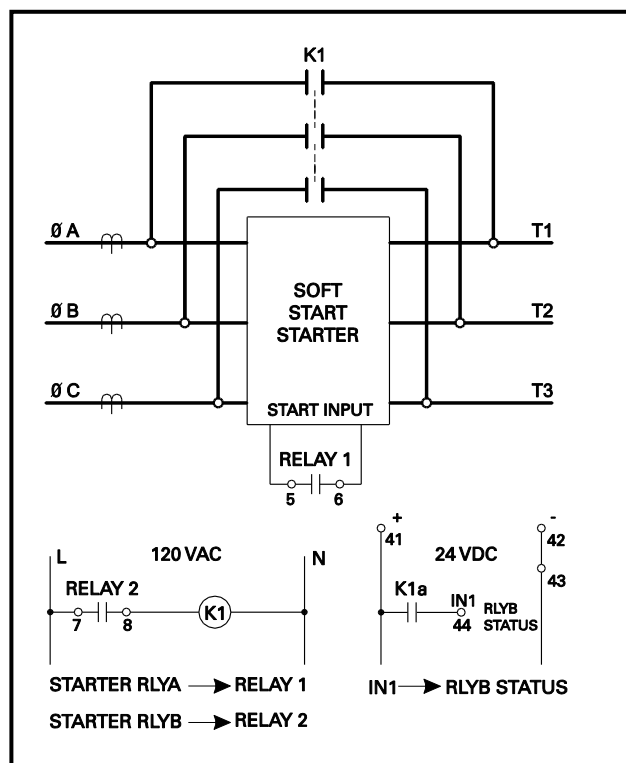

FIGURE 6.19 Soft-Start-With-Bypass-Starter Connection.
Connection: Fig. 6.19
- 1) This option coordinates the MPS *Starter RLYB* signal with the soft-start and ensures the status input does not validate prior to the intended time. Assign an MPS output relay with the *Starter RLYB* function as per Fig. 6.19. Connect this output-relay contact in series with the bypass contact from the soft-start (K1a) and connect this signal to a digital input programmed as *RLYB Status*. Set the *Stage 1 Delay* longer than the soft-start bypass time.